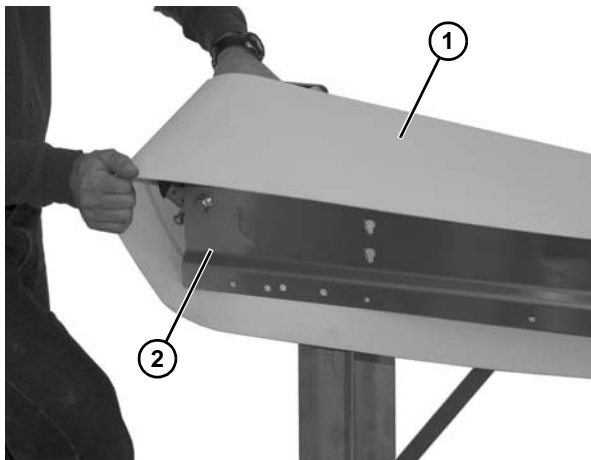

Figure 61
3. Install belt (**Figure 61, item 1**) on conveyor. Lift conveyor (**Figure 61, item 2**) slightly to avoid pinching belt on temporary support stands.